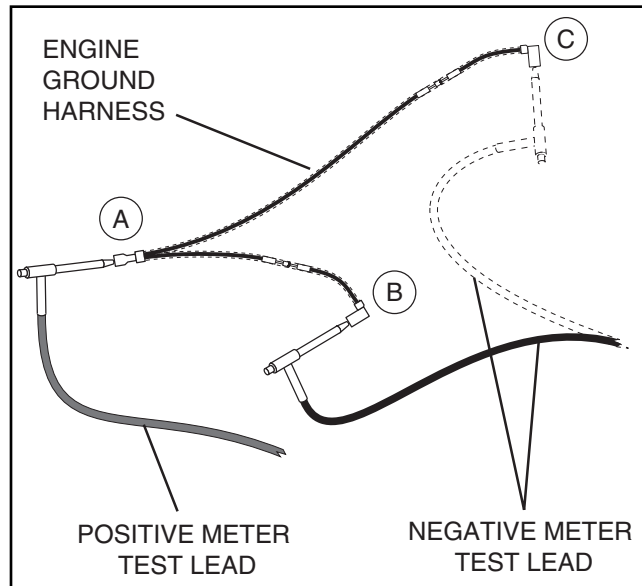

Figure 2-10. Testing Ground Wire
4. Insert RED test lead clip into connector "A" (Figure 2-10). Leave attached for remainder of test.